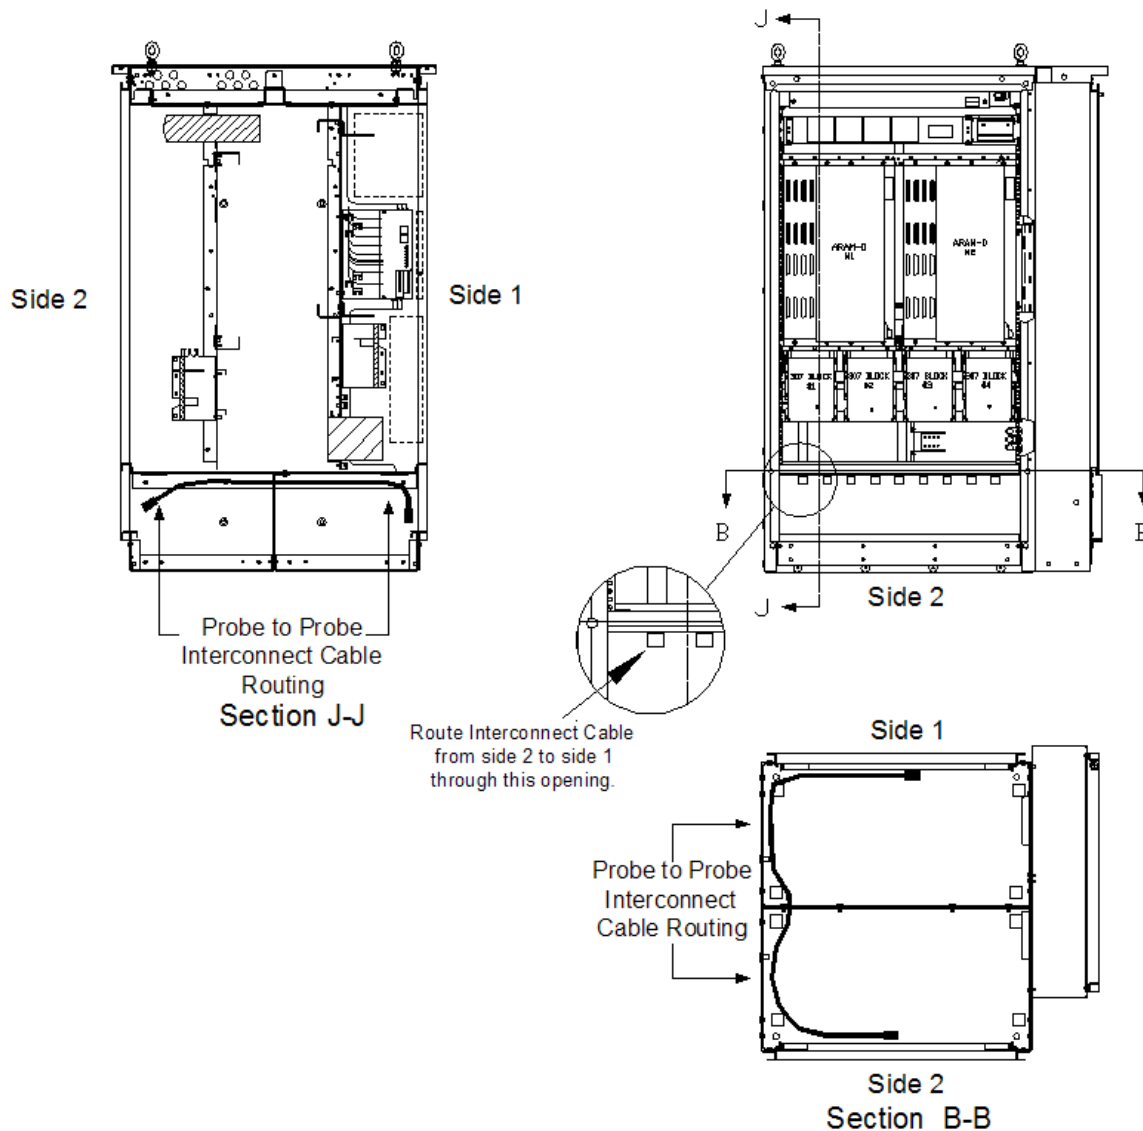

FIGURE 3: Thermal Probe Wireset Routing
- Before installing the new batteries, route the Wireset through the cabinet to the battery where the new Thermal Probe will be connected. Use the upper left square hole as shown in the upper right view (Side 2) in Figure 3.